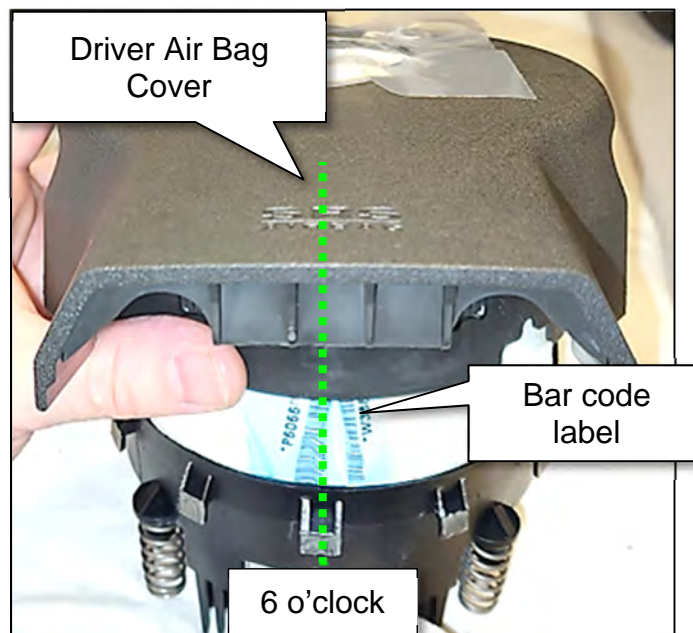

Figure 17
- Position the flat (bottom) part of the Driver Air Bag Cover at the 6 o'clock position so it is perpendicular with the Driver Air Bag Module bar code label, as shown in Figure 17.